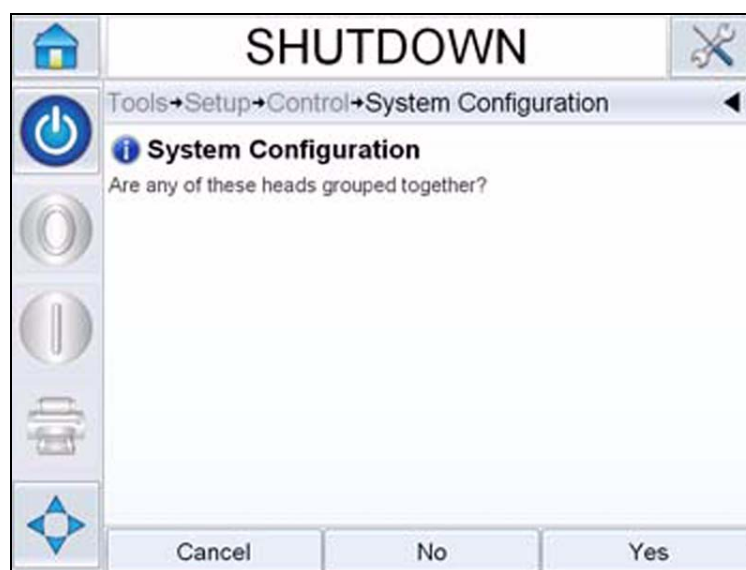

Figure 5-10: Grouped Printheads
- 2 Touch *Next* to select the number of printheads. The number of printheads ranges from 1-4. The following dialog box (Figure 5-10 on page 5-8) appears.